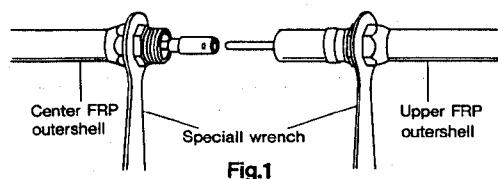

Fig.1
- 1) Put special wrenches on upper and center FRP outershells as shown in the Fig.1. Use small diameter section of the wrench.